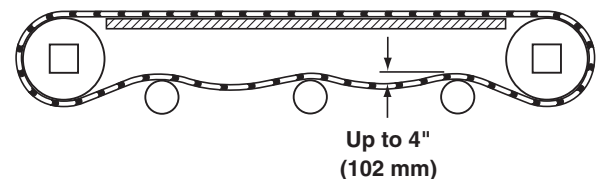

Figure 38
4. Check belt sag by measuring from the top of the return (Figure 38). Belt sag should not exceed 4" (102 mm). Follow steps 7 – 9 in the "Belt Installation" section on page 12 to remove slack from the belt.